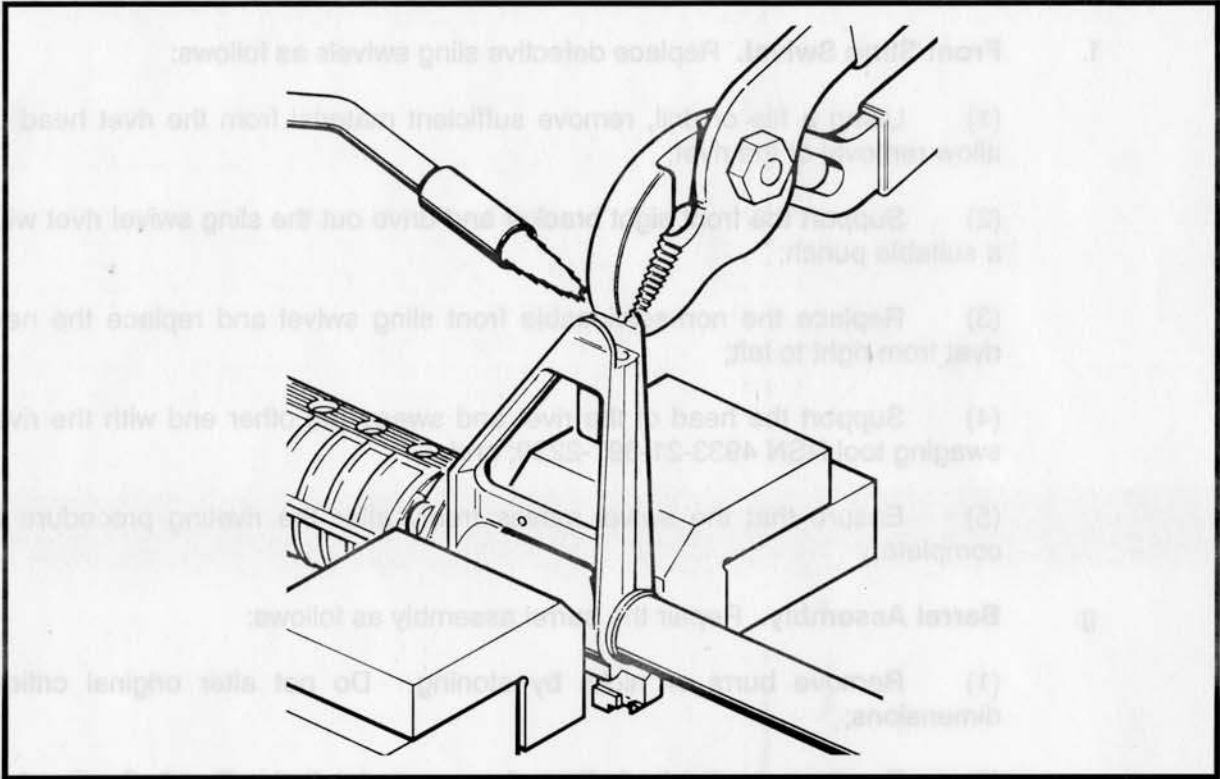

Figure 3-2-19 Reforming the Front Sight Protector
- (d) Reform the bent front sight protector with slip joint pliers. See Figure 3-2-19;
- (4) Remove carbon from the gas tube hole of the front sight bracket using a 5.56 mm bore brush; and
- (5) Backload weapons with defective barrels and those weapons with a loose or missing barrel indexing pin.